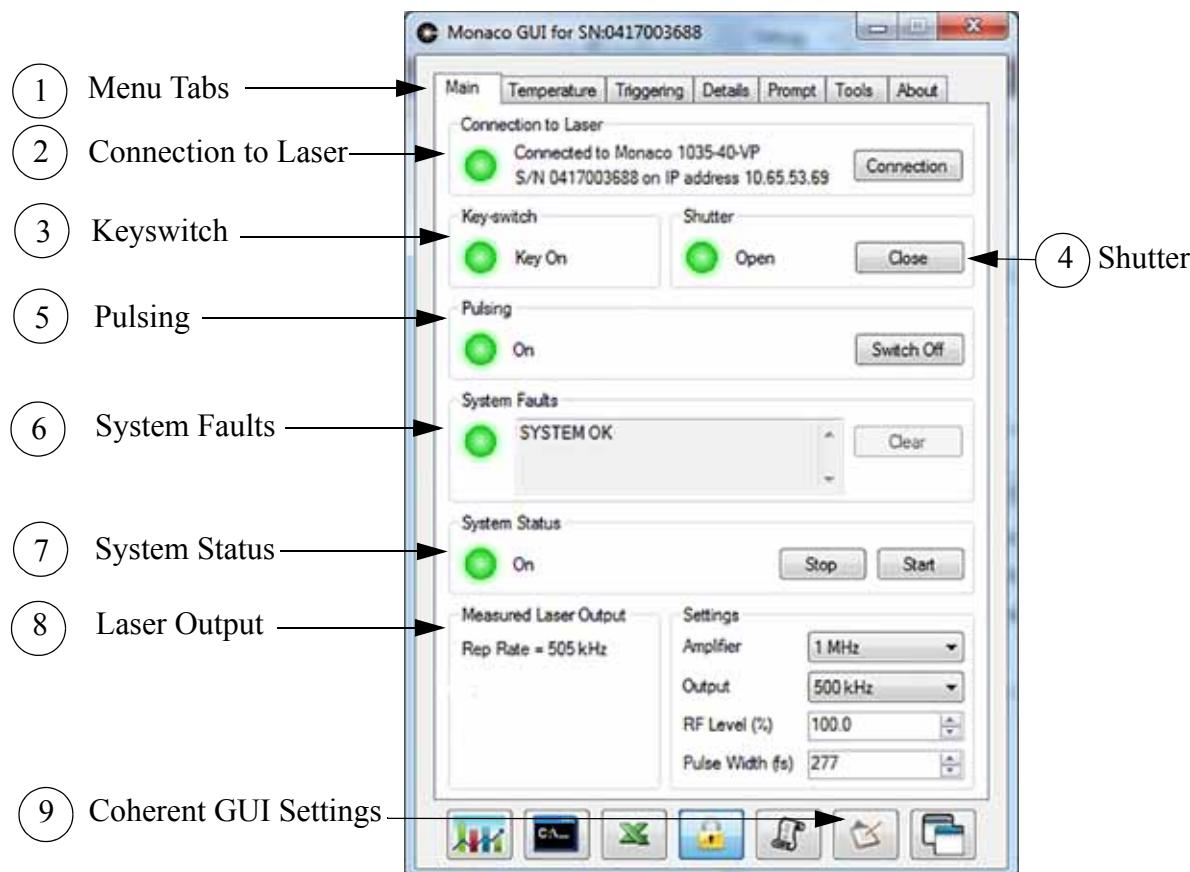

Figure 5-4. Main Menu Tab
- If the laser is running, from the GUI Main tab push “STOP” in the System Status panel (see Figure 5-4 on page 5-4).
The Coherent GUI **Main menu tab** provides an overview of laser status and includes panels for primary operation of the laser system. See Figure 5-4 above.